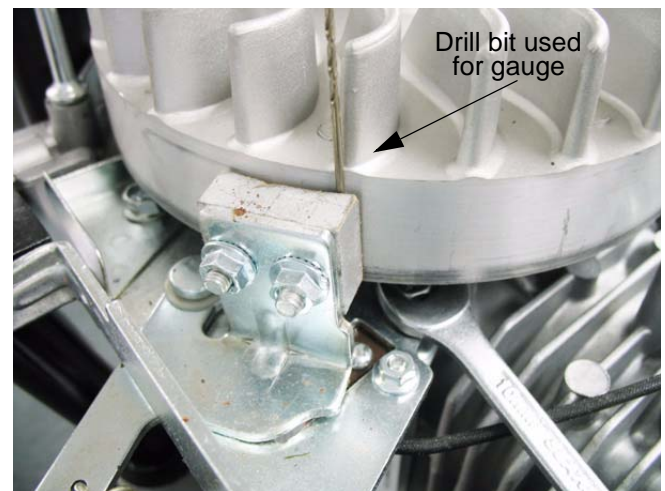

Figure 5.51
- 5.51. Position the brake assembly so that the edge of the brake pad that is nearest the slotted hole is roughly .050" (1.27mm) from the flywheel, then tighten the screws. See Figure 5.51.